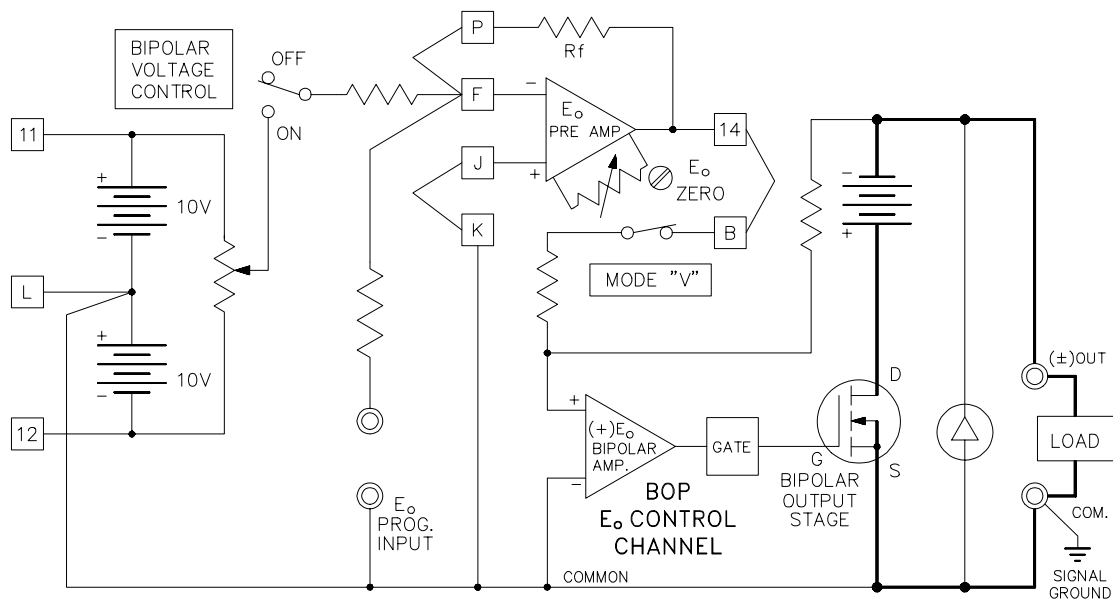

FIGURE 3-1. BOP VOLTAGE CONTROL CHANNEL
A) DIAGRAMS. Application and test set-up diagrams on the following pages show the symbolic and simplified representation of the BOP circuitry in four (4) separate diagrams, as indicated on FIGS. 3-1 through 3-4. The diagrams represent the four programmable circuits of the BOP.
- 1) Voltage Control Channel (FIG 3-1)